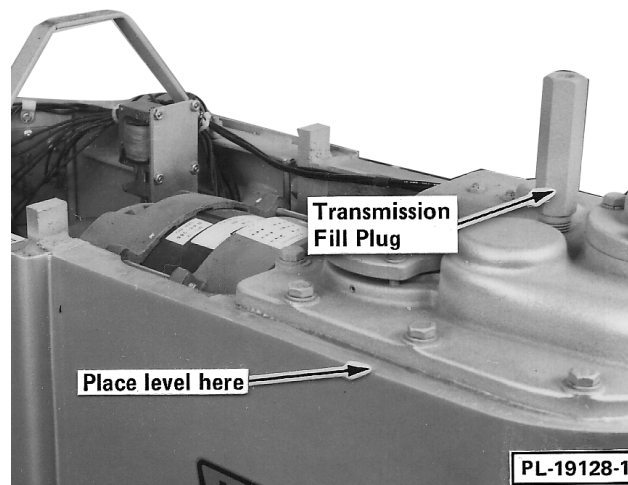

Fig. 1
2. Place a level on the machined surface of the transmission case (Fig. 1).